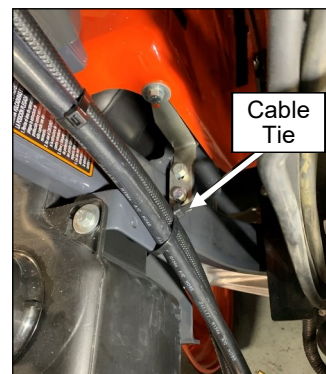

Fig. 6.7 (Cable Tie Hoses)
- 6.7 See fig. 6.7. Secure both hoses to the vehicle frame using a cable tie as shown. Ensure that the hoses will not contact any sharp edges.